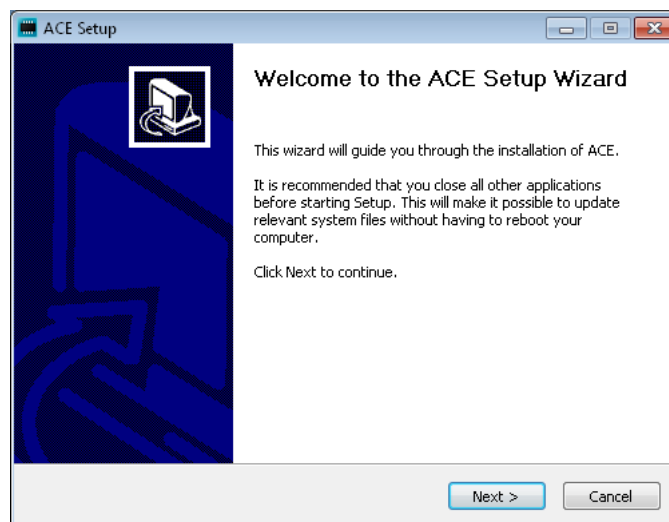

Figure 2.1: ACE Setup Wizard Step 1
**Step 1:** Close all open instances of ACE before clicking “Next” to proceed, Figure 2.1